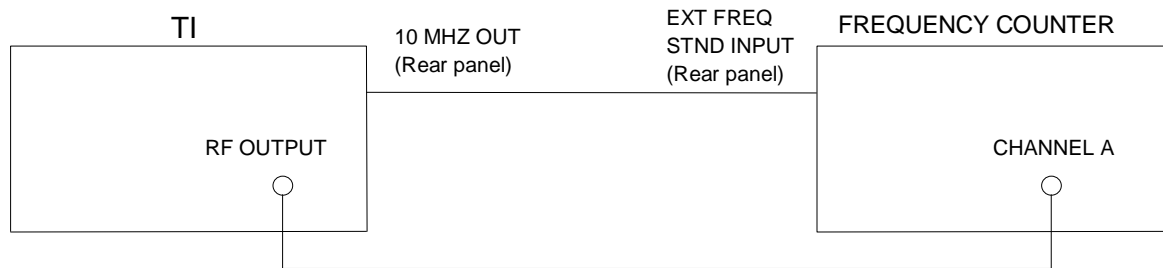

Figure 1.
4.1.7 Connect equipment as shown in Figure 1.